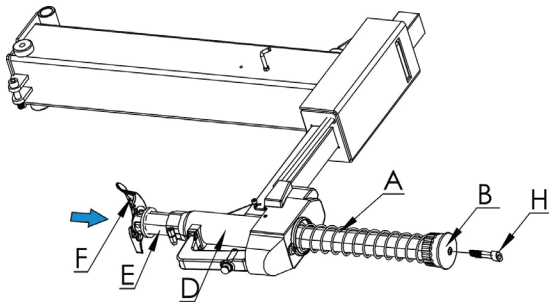

Fig.6
- Use 6mm inner hexagon spanner to take off the screw H which is inside of the plastic cover B. Take Quadrate column E out, move the spring A, then install hex column back. Put the spring A on the top of hex column and install the plastic cover B back and tighten screw. (Fig.6)